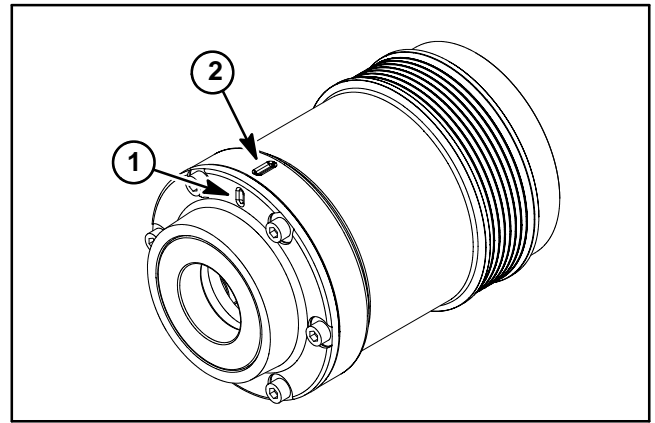
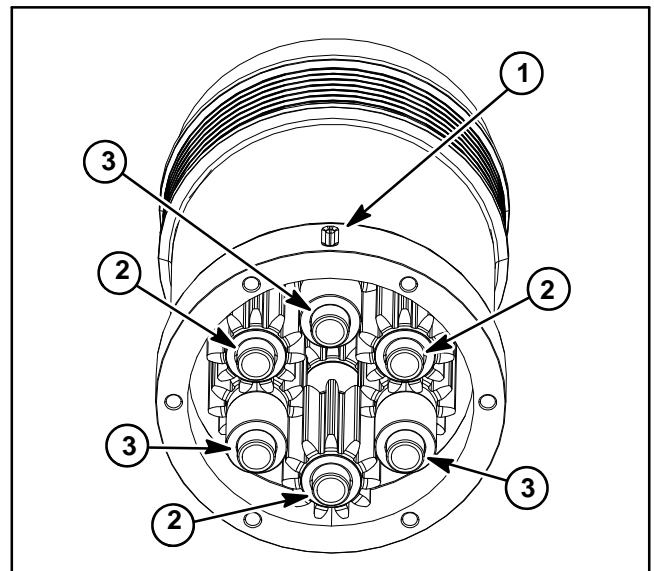

Figure 28
Figure 30
2. Remove six (6) socket head screws that secure cover to housing. Note alignment of index marks on housing and cover for assembly purposes (Fig. 28).
4. Lift housing from differential assembly leaving internal components positioned on cover. For assembly purposes, note that index mark on housing is aligned with a gear pin that has one (1) gear (Fig. 30).
4. Position housing onto assembly making sure that gear pin with one (1) gear is positioned next to index mark on housing (Fig. 30). Also, align index marks on housing and cover during assembly (Fig. 28).
6. Secure cover to housing with six (6) socket head screws. Torque screws from **99 to 121 in-lb (11.2 to 13.6 N-m)**.